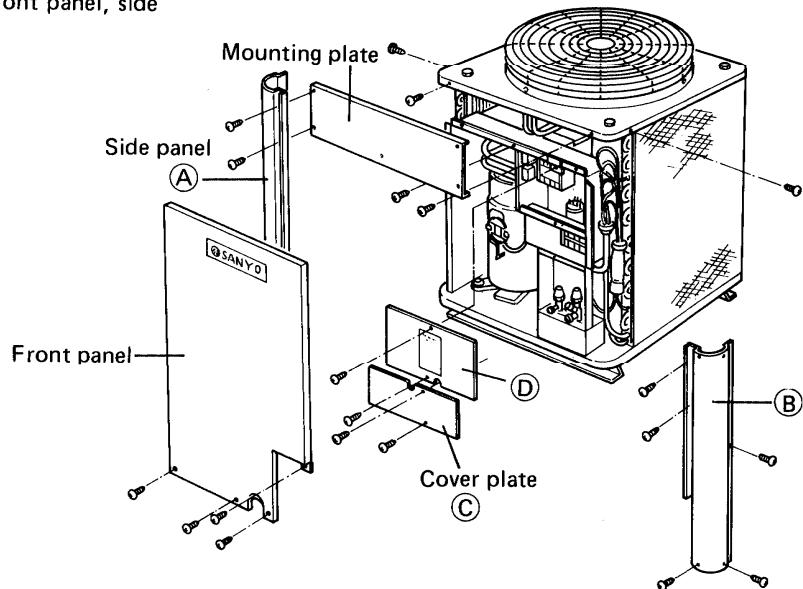

**Fig. 8**
- 2) As shown in Fig. 8 loosen the four screws which secure the fan motor.